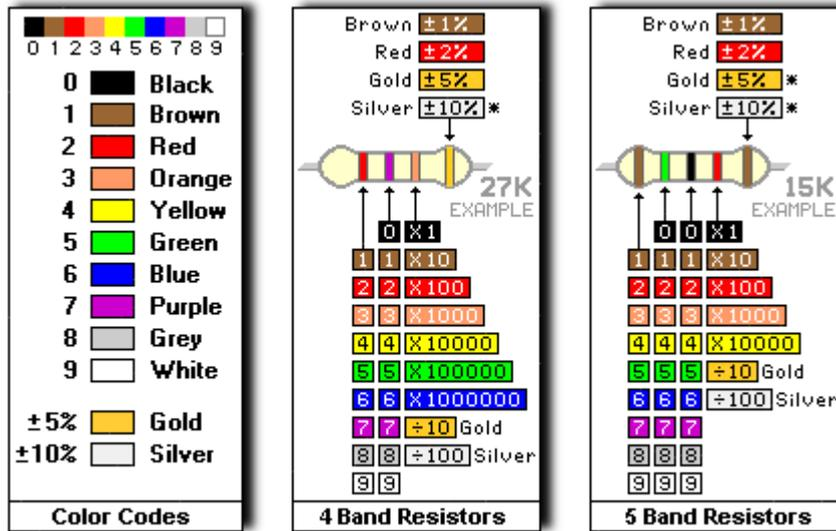

Figure2.8 Resistor Color Codes ( <http://hibp.ecse.rpi.edu> )
1. The resistance value itself in ohm, this is can be recognized by using an ohmmeter or the color bands that painted around the resistor's body (see Figure2.8).